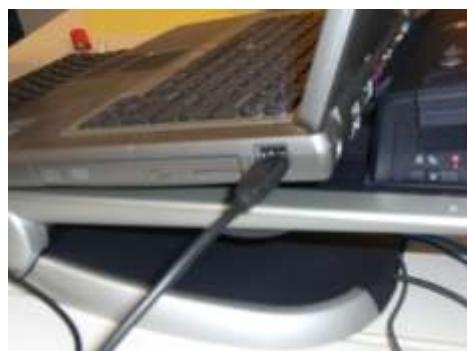

Figure 78: USB “A” connector plugged into free PC USB port.
3. The user should now plug the flat USB type “A” connector into a free USB port on your PC (Figure 78).